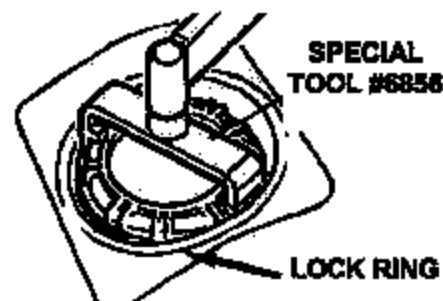

Figure 4
12. Using Special Tool #6856, remove the fuel pump module lock ring (Figure 4).